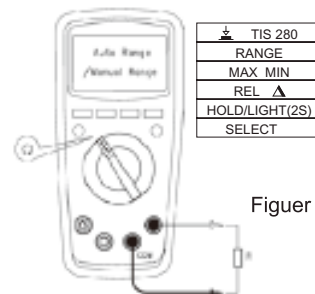

Figure 4a
2. Resistance Measurement (See Figure 4a)